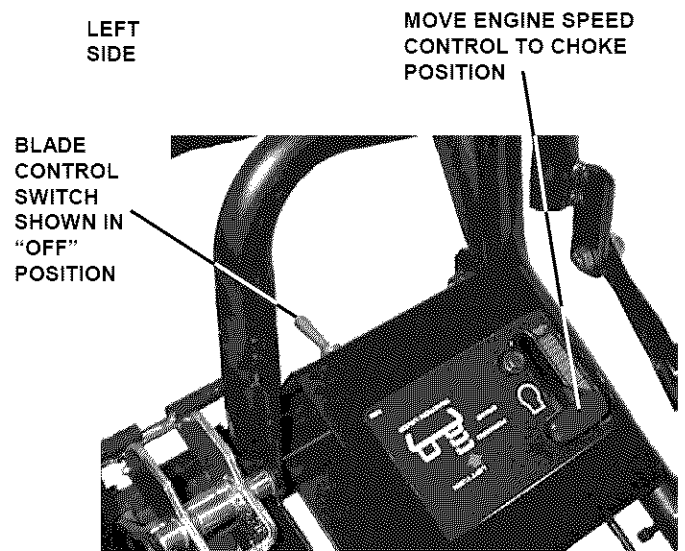

FIGURE 3.4
5. Move Engine Speed Control Lever to the **CHOKE** position. See Figure 3.4.
10. To engage the blades, pull out and up on Blade Clutch Switch moving it to **ON** position. See Figure 3.4.